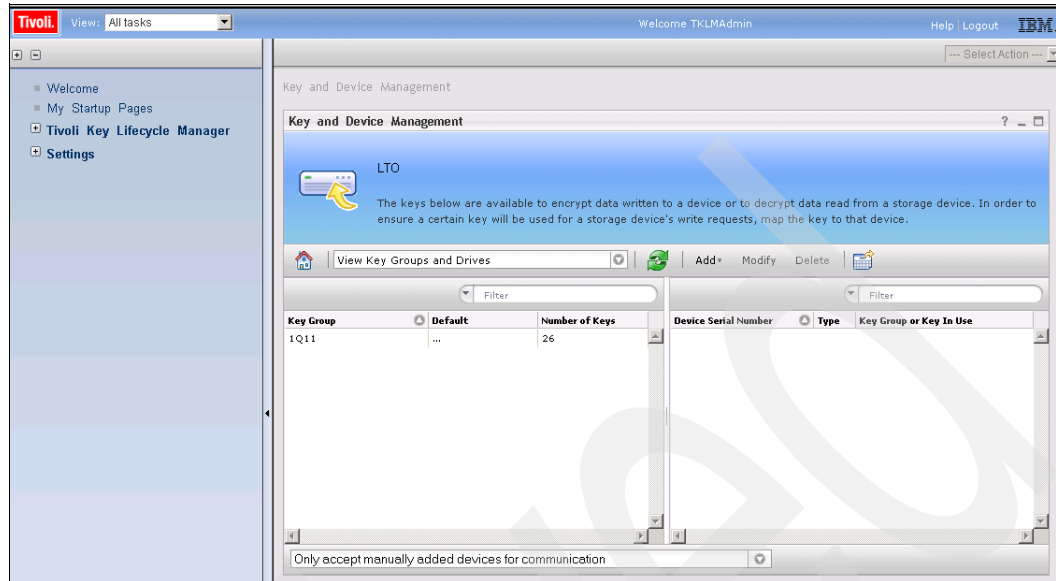

Figure 9-49 LTO key group successfully updated
- The **Key and Device Management** panel displays the updated key count (Figure 9-49).